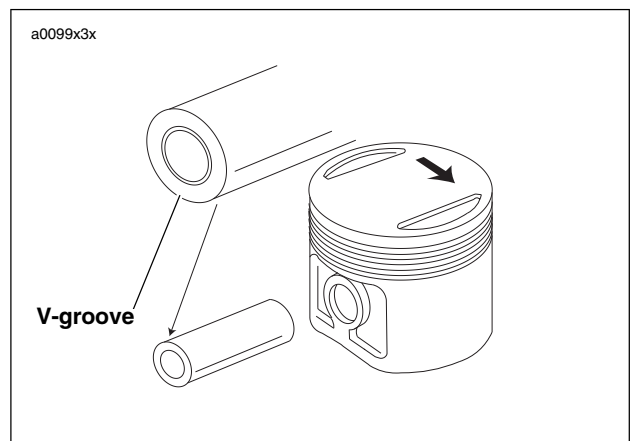

Figure 3-72. Piston Pin and Piston Identification
9. See Figure 3-72. The arrow at the top of pistons must always point toward the front of the engine.